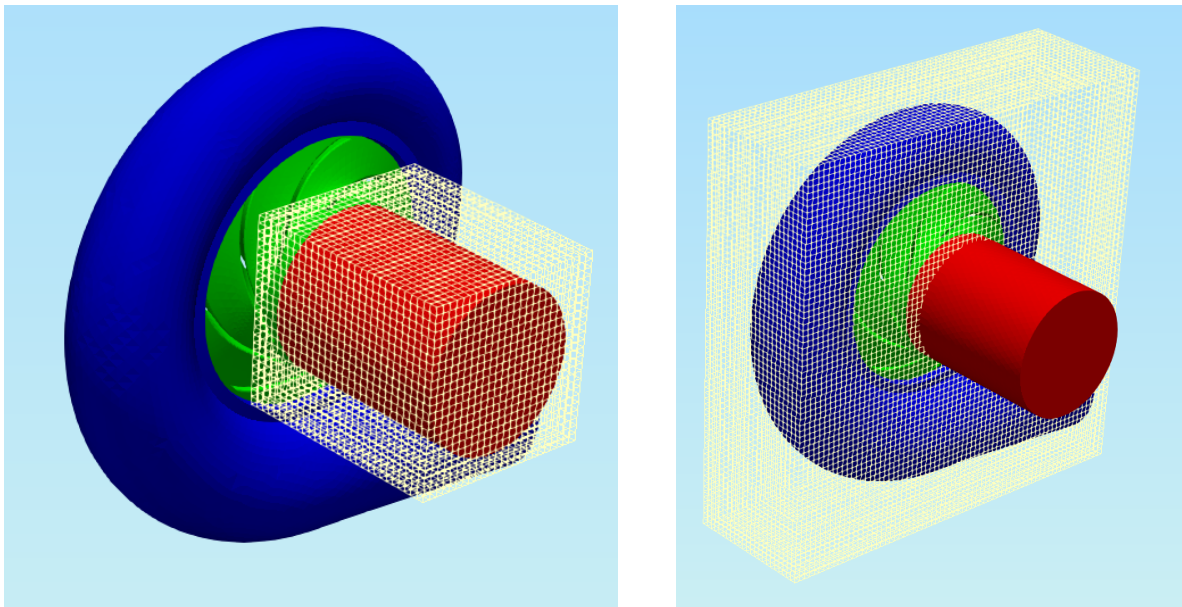

Figure 7.14: TMESH – background mesh wireframe in *RenderView*, shown for two components.
- "Background mesh cell size" is the most important parameter, and sets the basic cell size in the three directions for the rectangular background mesh (all cells will be such or smaller). Background mesh can be displayed in the *RenderView* by the checkbox "Show background mesh wireframe" (see figure 7.14). If the background mesh is cylindrical, see below, the meaning of the **Background mesh cell size** entries is different. The first number controls the edge length of cells comprising the inner rectangular prism, except for edges parallel with the axis, whose size is controlled by the third number. The second number controls the size of radially aligned edges in the rest of the cylinder (see 9.6).